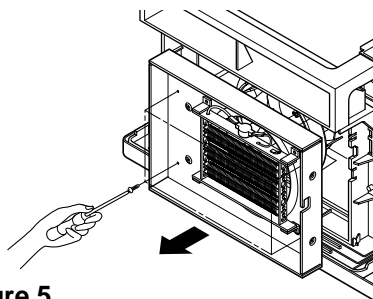

Figure 5
5. Remove the 2 terminals carefully (See Fig. 5, Electric Heater Model only)
6. Remove the 4 screws which fasten the orifice. (See Fig. 5)
7. Remove the orifice. (See Fig. 5)